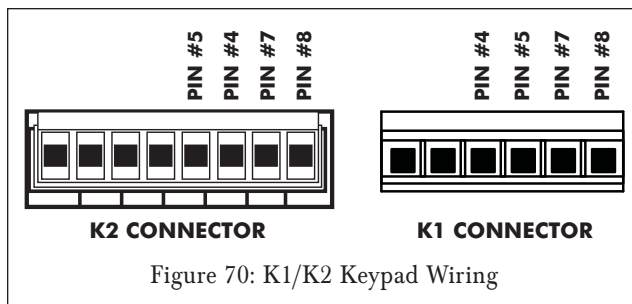

Figure 70: K1/K2 Keypad Wiring
3. Connect the CAT5/RJ45 cable to the zone’s Keypad Controller Port on the DAB1 and to the multi-pin connector on the back of the K1/K2 keypad (don’t use the keypad’s RJ45 connector). See *Figure 70*.